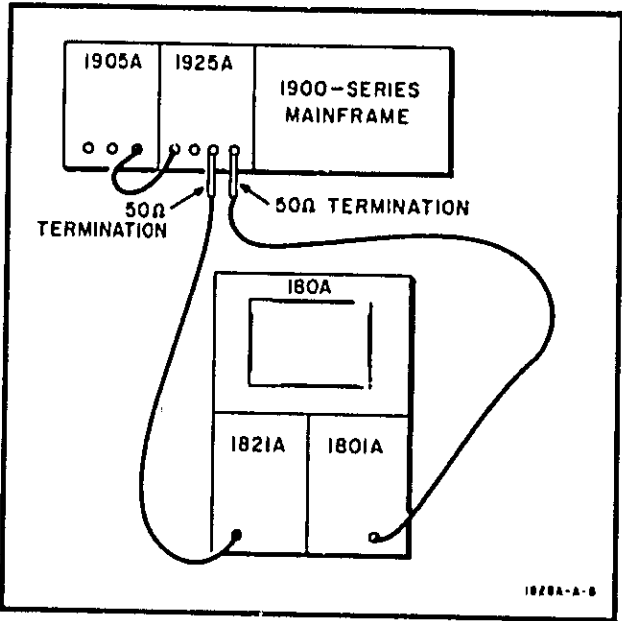

Figure 5-9. PGM Check Test Setup
a. Set the equipment and accessories as indicated in Figure 5-9.